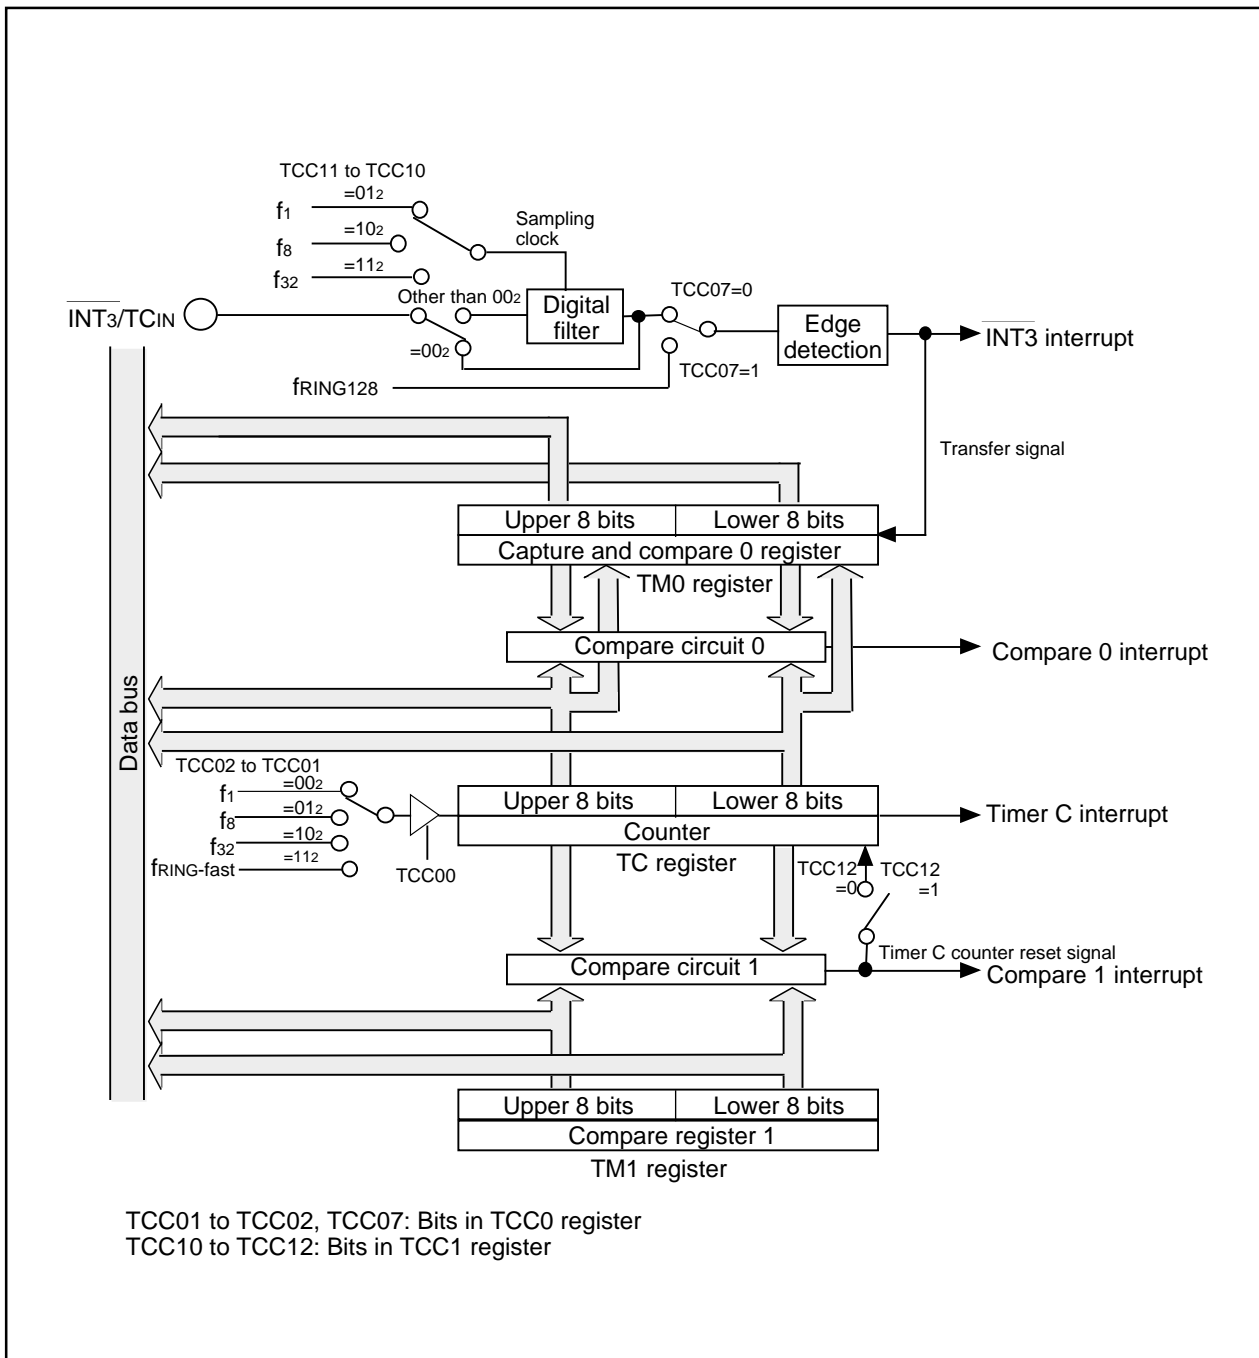
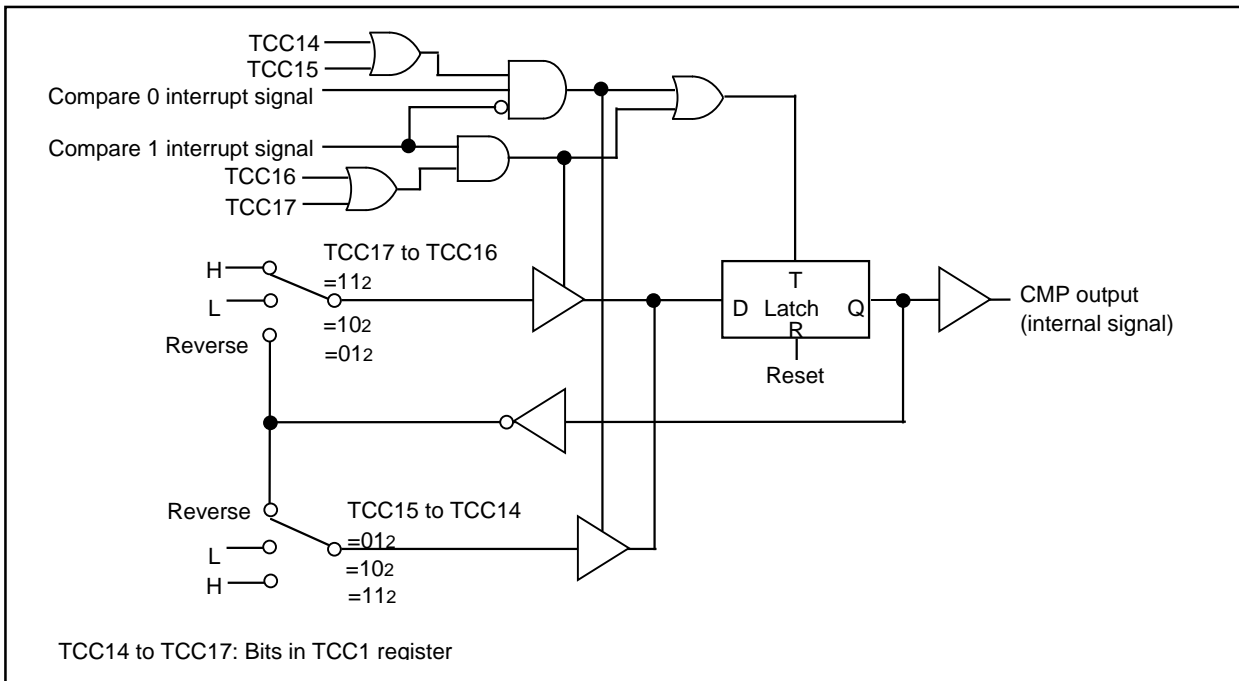
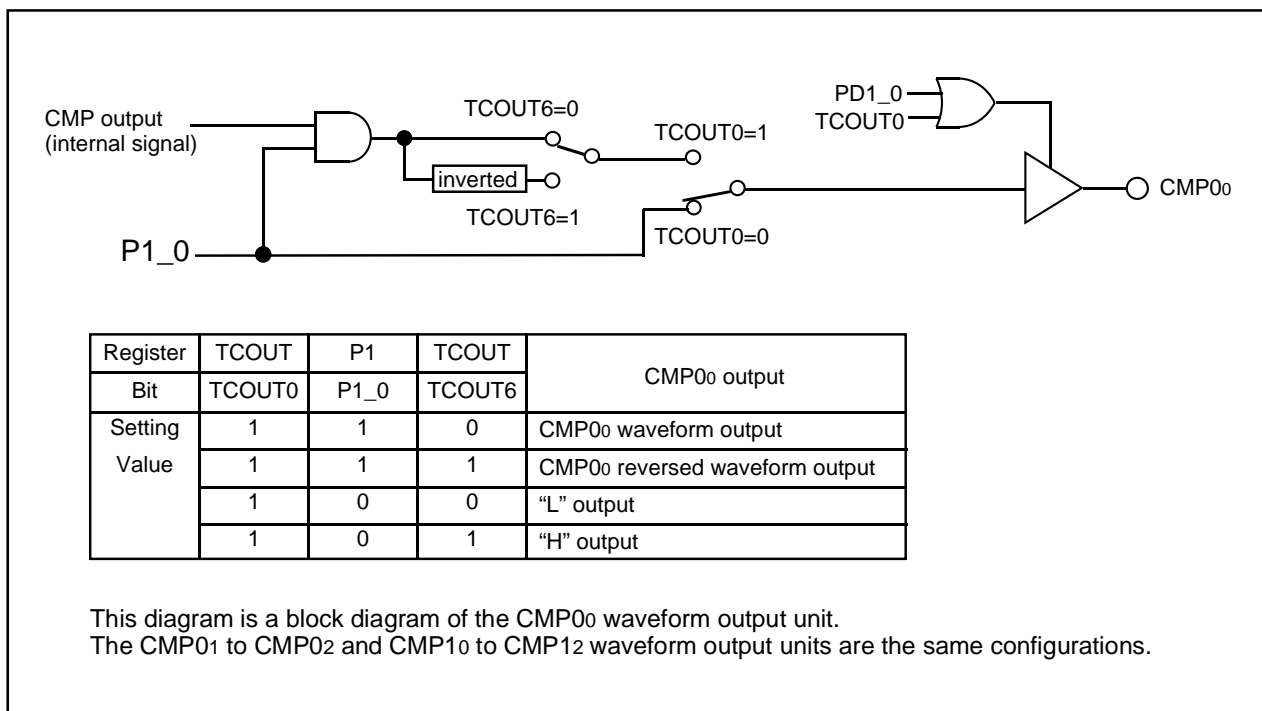

Figure 12.28 Timer C Block Diagram
Figure 12.29 CMP Waveform Generation Unit
Figure 12.30 CMP Waveform Output Unit
Timer C is a 16-bit timer. Figure 12.28 shows a block diagram of Timer C. Figure 12.29 shows a block diagram of CMPs waveform generation unit. Figure 12.30 shows a block diagram of CMP waveform output unit.
- When the corresponding port data is "1", the waveform is output depending on the setting of the registers TCC1 and TCOUT. When the corresponding port data is "0", the fixed level is output (refer to Figure 12.30 CMP Waveform Output Unit).